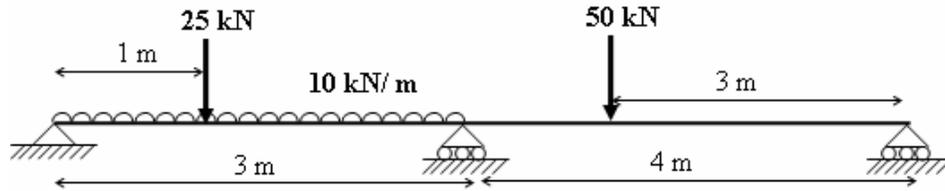

Fig.4
5. Analyze the continuous beam shown in Fig.4 using flexibility method. [16]